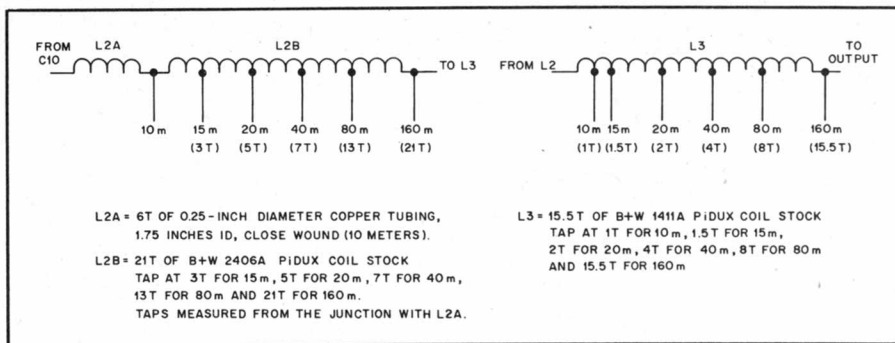

Fig. 64 — Details of the pi-L coils, L2 and L3 of Fig. 63.
- L2, L3—See Fig. 64.
C12 (LOAD), a 1000-pF air variable, does not have enough capacitance for operation on 160 and 80 meters. A spare contact on S2A switches C11 into the circuit for 160-meter operation, while S2C switches C13 into the circuit for 80-meter operation. L2 is made from a section of 1/4-inch copper tubing for 10 meters and a section of B&W Pi Dux stock for the other bands. The L coil, L3, is also made from a small section of Pi Dux stock. S2 switches the taps for use on the various bands. Fig. 64 is a detailed diagram of the tank coil connections.